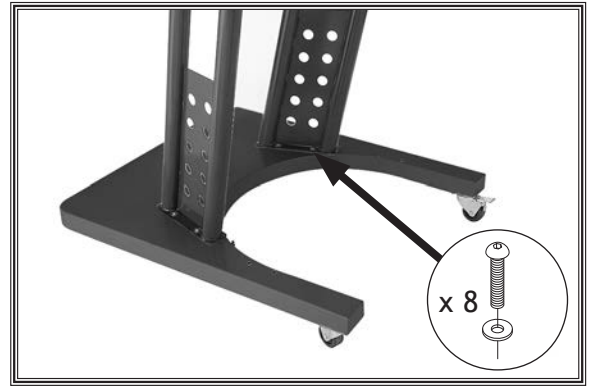

Figure 10. Support legs attached to base.
- Attach each support leg to base, as shown in **Figure 10**, and finger-tighten with (8) $\frac{5}{16}$ "-18 x $\frac{3}{4}$ " button head cap screws and (8) $\frac{5}{16}$ " fender washers.